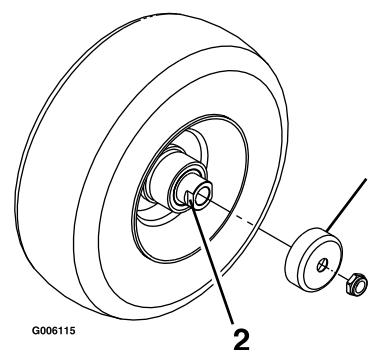

**Figure 42**
9. Remove the grease zerk in the hole. Install the hex plug and dust cap (Figure 42).